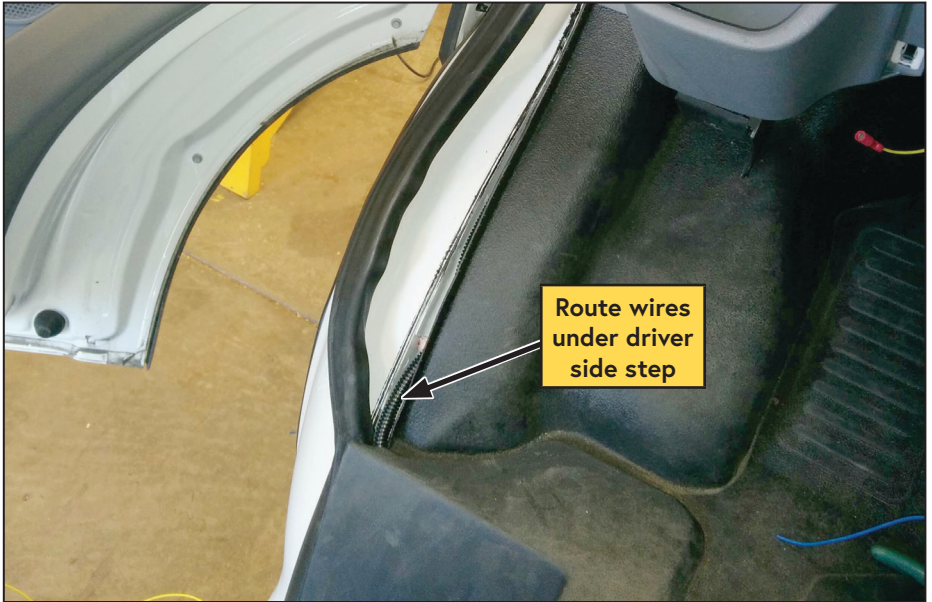

Figure 55 — Driver side step
- Route the loomed wires along the inside of the driver door and underneath the driver side step, towards the driver side seat support (Figure 55).